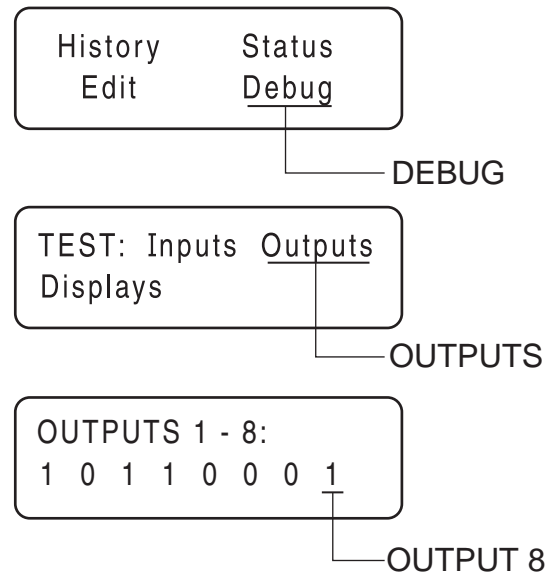

Figure 77. The Home Page, Debug and Output Screens
16. Digital Output 8 is the Wire 23 output from the controller. Refer to Figure 77.
11. Digital Output 8 is the Wire 23 output from the controller. Refer to Figure 77.